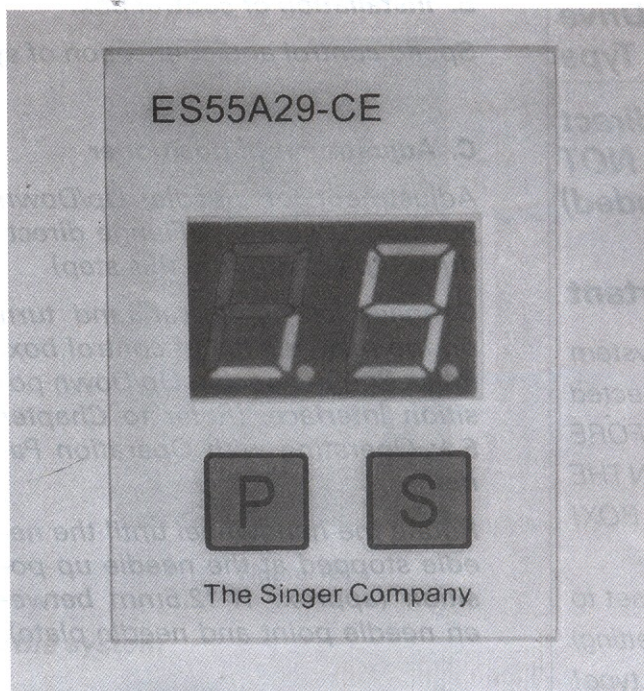

Figure 14
A. The operation panel display have double digit LED display. (Figure 14)